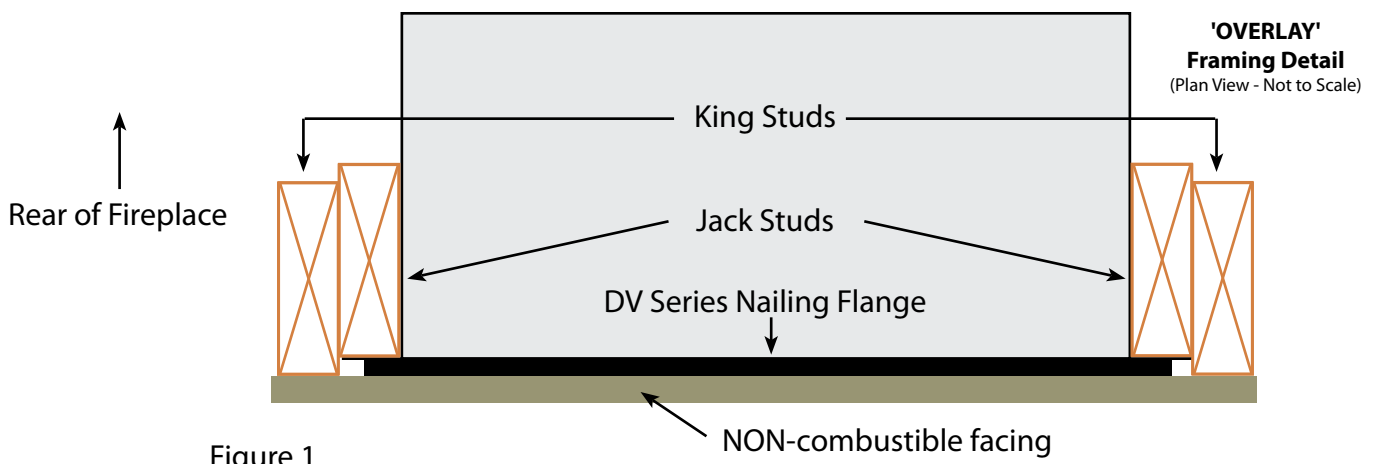
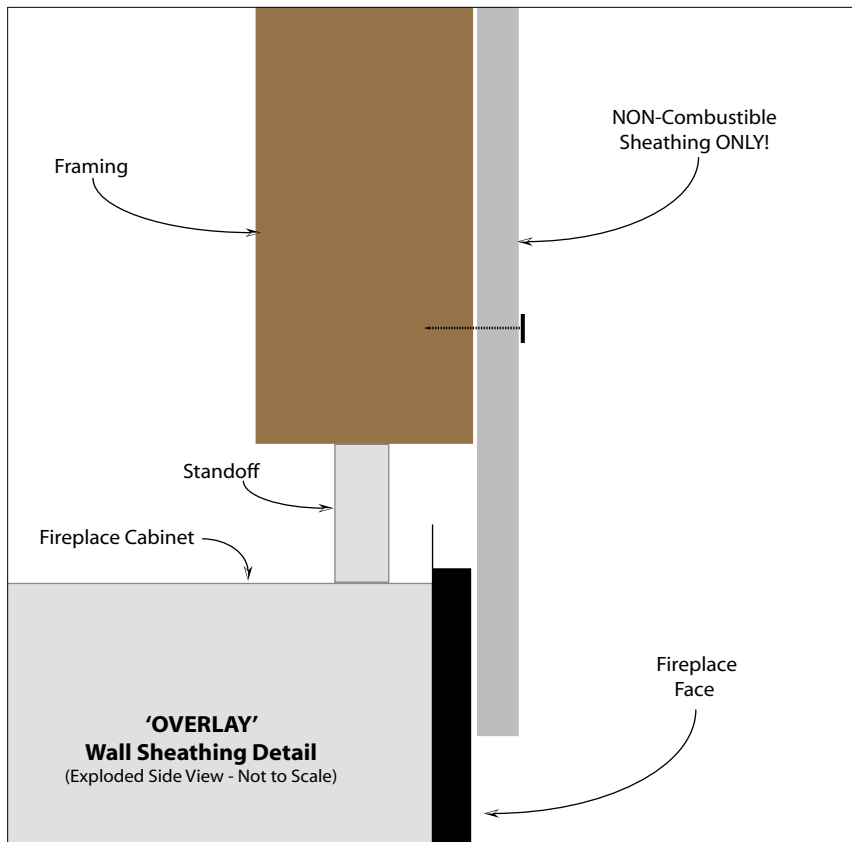

Figure 1
Figure 2
1) The most popular method of finishing your installation is the **Overlay** style (Figure 2.) As the name implies, your **NON-combustible material** *lays over* the metal fireplace trim creating a clean, minimalist look.
This style requires that you set the fireplace $\frac{5}{8}$ " back from the face of the framing so that the **fireplace face is flush with the framing**. This is most easily accomplished by moving the jack studs (or trimmers) rearward $\frac{5}{8}$ " in relation to the king stud (Figure 1.)
As shown in the top view of Figure 1 and the side view of Figure 2, NON-combustible facing is placed to cover the black metal trim of the cabinet. On all four sides of the fireplace opening, this NON-combustible facing can be brought up to, *but not beyond*, the edges of the fireplace opening.